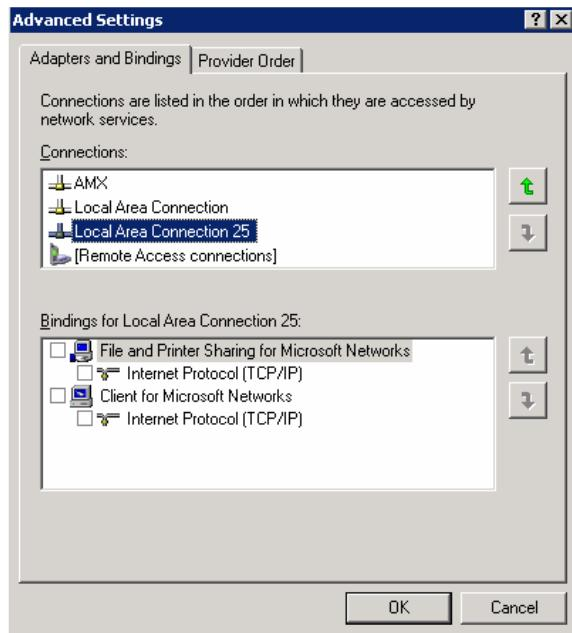

FIG. 80 Bindings for Local area list detail
5. In the lower *Bindings for Local Area Connection* field, unselect ALL bindings by clicking on the checkboxes by each binding to remove the checks from each box (FIG. 80).